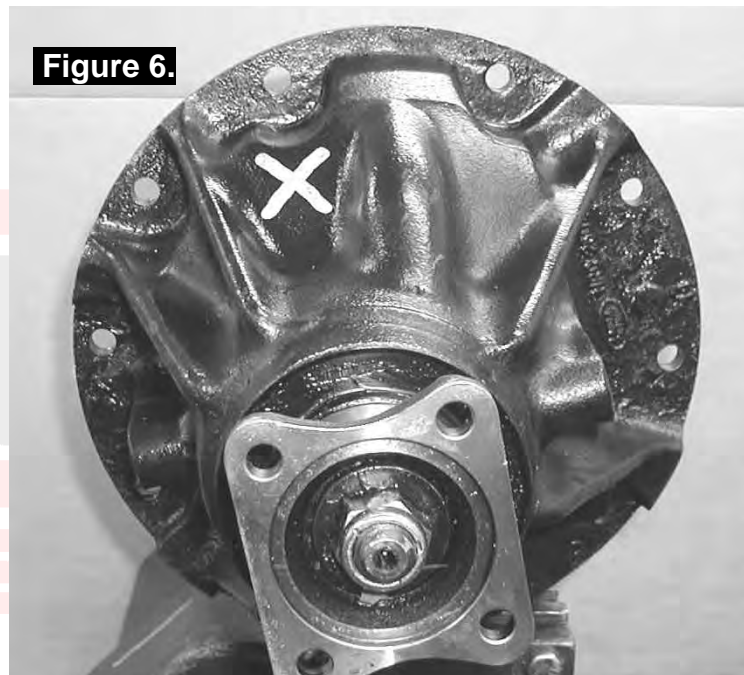

Figure 6.
- Mark a spot on the left hand side (opposite the ring gear) toward the top of the differential housing that is in an area well clear of the differential, the ring gear, and any other obstructions that could snag the seal housing tube. (Fig.6.)